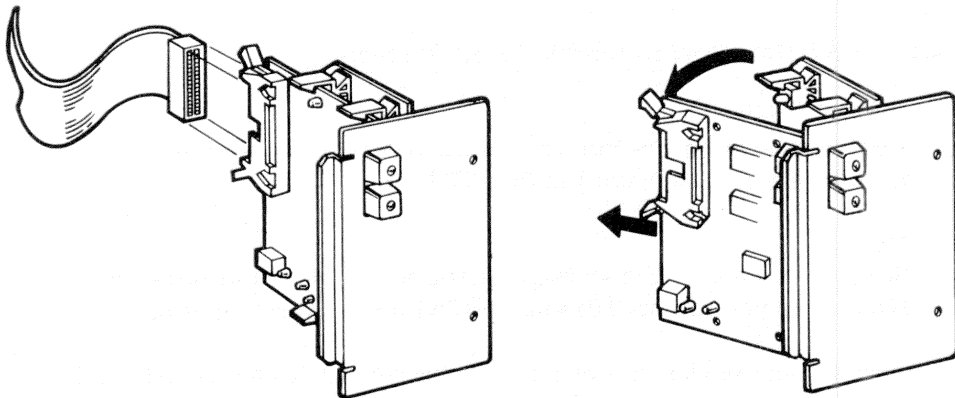

Figure 6-7 CPU Console Board Removal
2. Disconnect the ribbon cable from the CPU console board. (Figure 6-7)